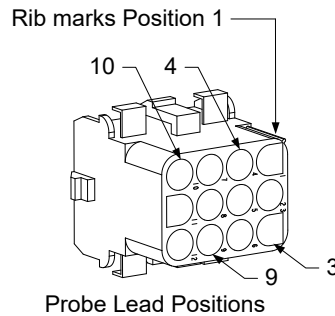

Figure 42
10. Insert the temperature probe leads into the 12-pin wiring harness connector (see Figure 42). For full-vat units or the right half of a dual-vat unit, the red lead goes into position 3 and the white into position 4. For the left half of a dual-vat unit, the red lead goes into position 9 and the white into position 10. **NOTE: Right and left** refer to the fryer as viewed from the rear.